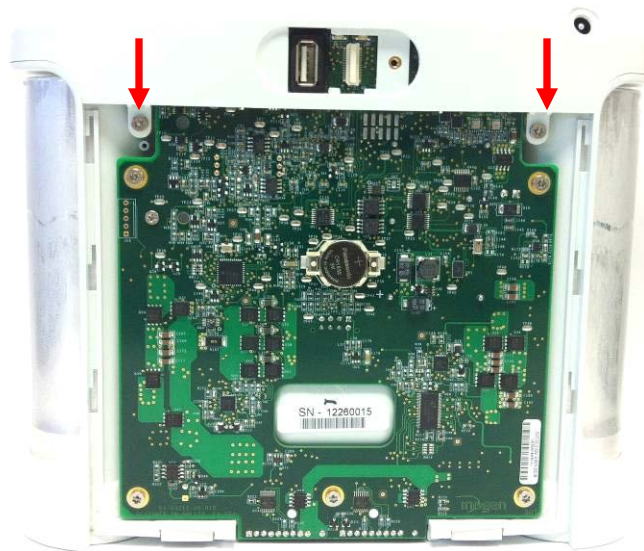

Figure 5: Location of rear screws
6. With the side housing removed, locate and remove the four screws that connect the user interface panel to the chassis (Figures 5 and 6).